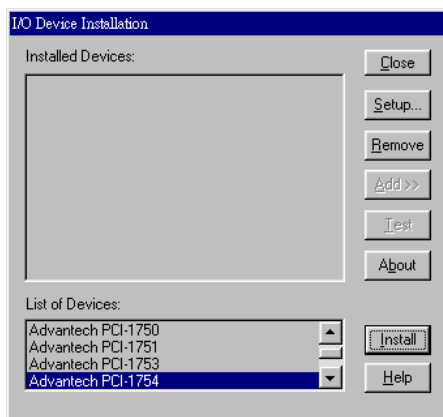

Fig. 2-7 Selecting the device you want to install
Step 3: Click the *Add>>* button and a *List of Devices* box will appear right below the original *Installed Devices* box (Fig. 2-7).